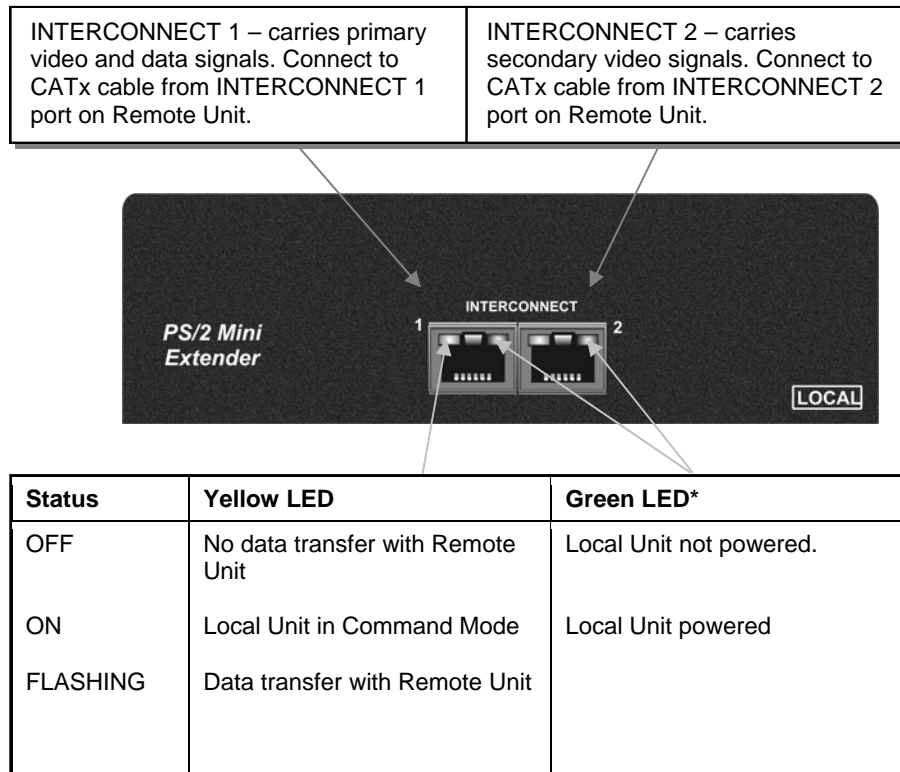

Figure 5 Local Unit – front view
- Illuminates the yellow Interconnect 1 LED continuously (see Figure 5).